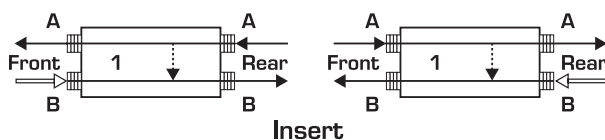

Fig. 1.2: Insert configuration (Mode 1)
Fig. 1.2 illustrates how inserts are wired. Let's say, a signal is connected to the upper rear connector (A). This signal is now routed to the front via the connector (A) and routed to the rear via connector (B). Only when the lower front connector (B) is used, the sketched signal flow is interrupted so that both upper connectors and both lower connectors have contact. This operating mode is what we call "input break". It also functions vice versa (see fig. 1.2), whereby the signal flow is interrupted as soon as connector (B) at the rear has a signal connected to it. Mode 1 is for example suitable for connecting the master inserts of your mixing console to the in/outputs of your compressor.